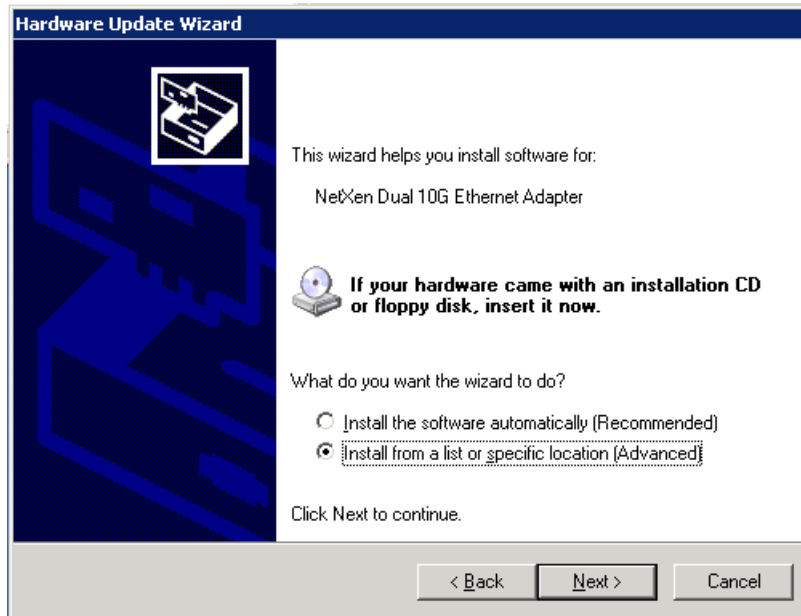

Figure 5-6 Hardware Update Wizard
3. Select **Install from a list or specific location (Advanced)** (see Figure 5-6). Click **Next** to continue.